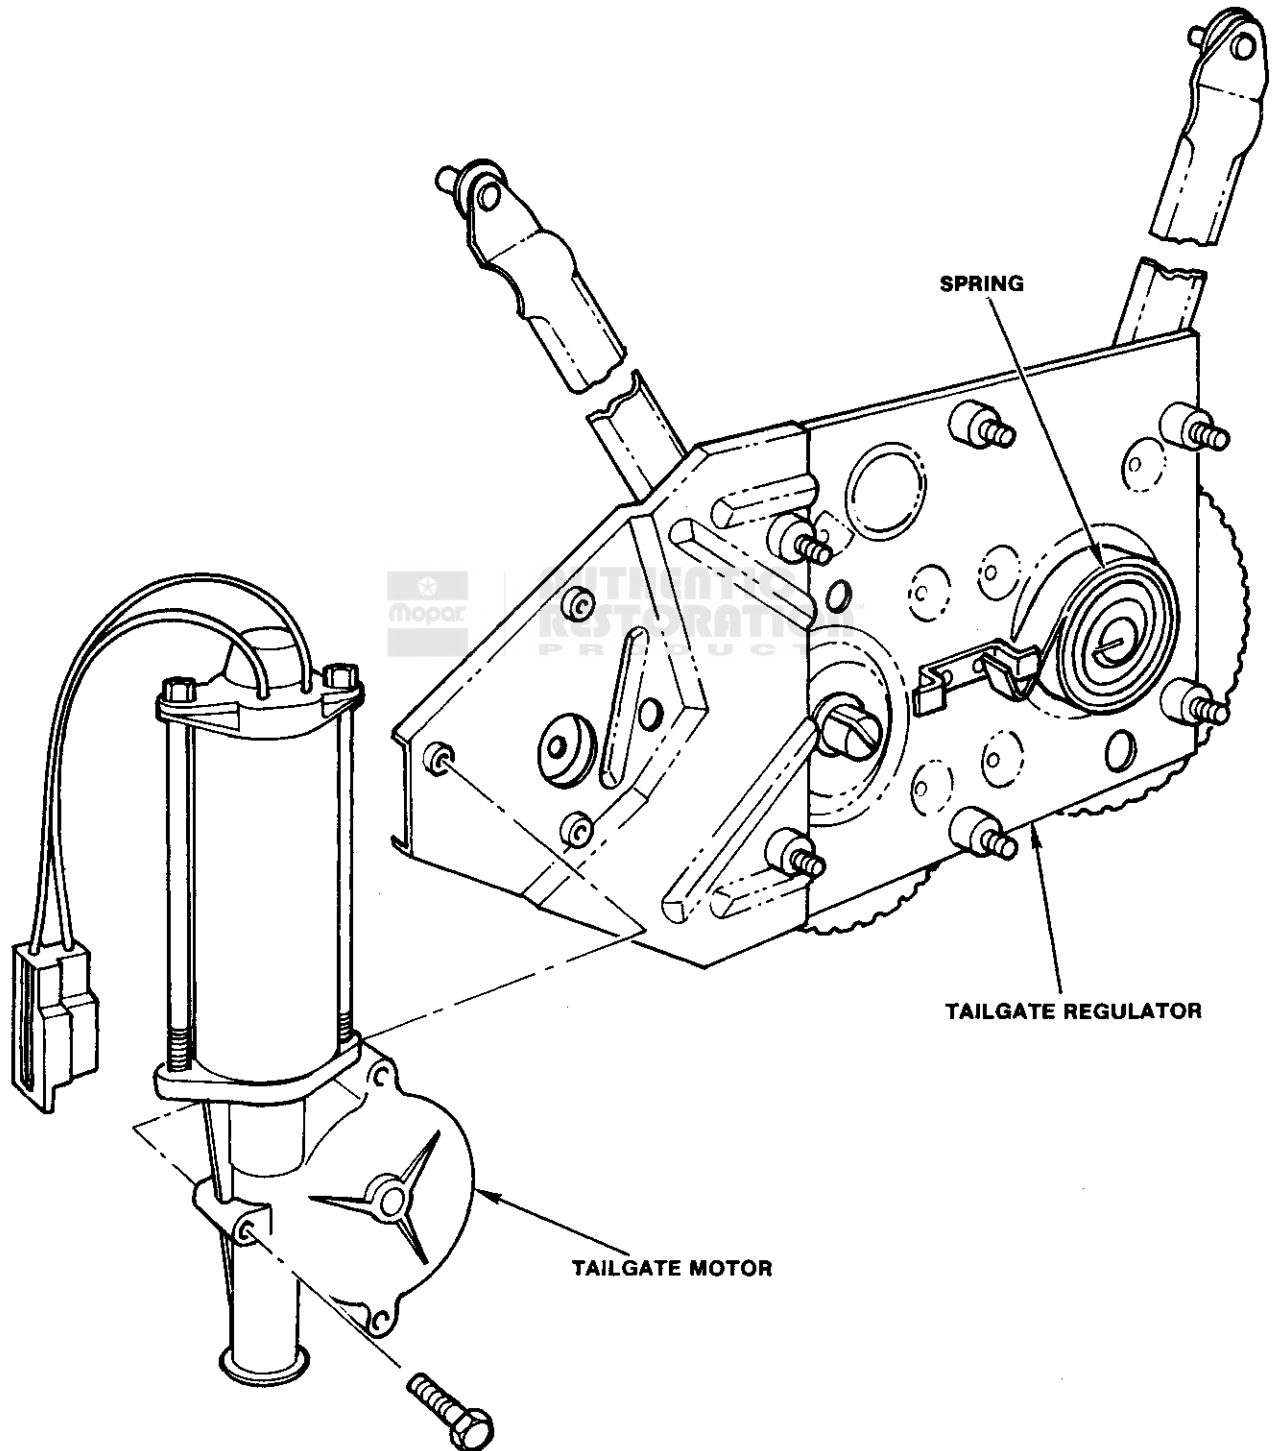

Fig. 3H-5 Power Tailgate Regulator and Motor
- (1) Remove tailgate window regulator, as outlined above.
- (2) Remove motor attaching screws (fig. 3H-5) and motor from regulator.